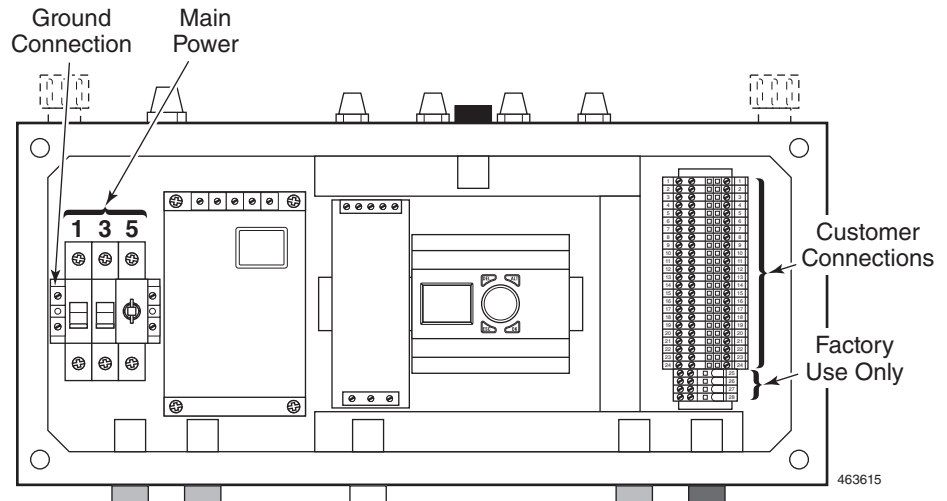

Figure 21
1. Install conduit and wire from the breaker panel to the left side of the control panel. See Figure 21.
3. On 3-phase systems, connect the three power feed wires to breaker poles 1, 2 and 3. On single phase systems, connect the two power feed wires to breaker poles 1 and 5 (do not disconnect factory wires connected to breaker pole 3). See Figure 21.
Door control signal wiring is done at the terminal blocks located inside the Control Panel, on the right side. See Figure 21. There are many signals used to control the door Operator. The most common are pull cord switches or stations, three button stations (i.e. open, close, stop) and radio control. All three may be used separately, in combination, or all together. The control circuit is 24 VDC. Consult local electrical codes before proceeding with permanent installation.
7. Connect the wires of one of the pull cord switches to terminal blocks #5 and #9. See Figure 21.
Connect Input/Output wires in a manner similar to the pull cord wires (above). Refer to the *Terminal Blocks* section of the *R-Plus Doors ICC-5 Operator Quick Reference* manual and to the *Input/Output Guidelines* sheets to know where and how to connect these devices. See Figure 21.